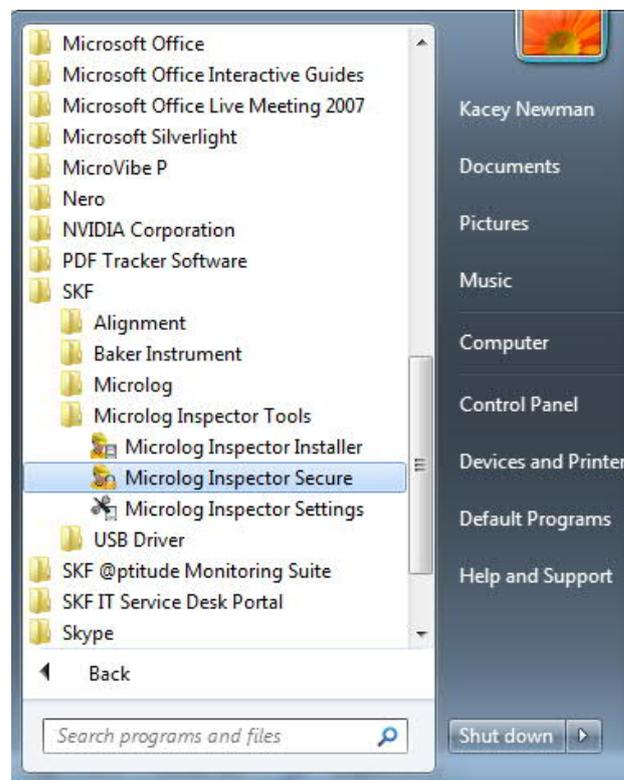

Figure 2. Launch desktop application
5. Ensure the handheld is connected to the computer. Then, launch the desktop Microlog Inspector Secure application by going to Start > All Programs > SKF > Microlog Inspector Tools > Microlog Inspector Secure. [Figure 2]